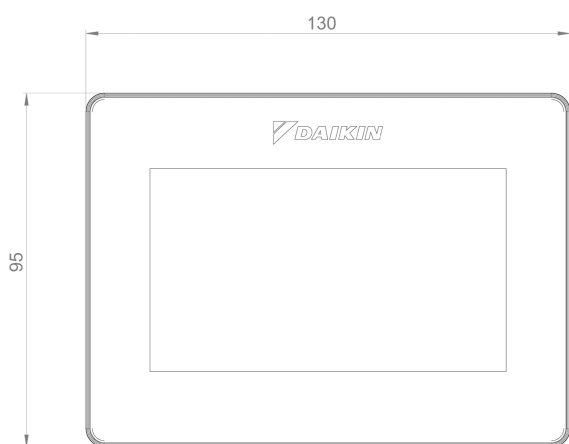

Figure 1 – Front display panel
- Front display panel (Figure 1)